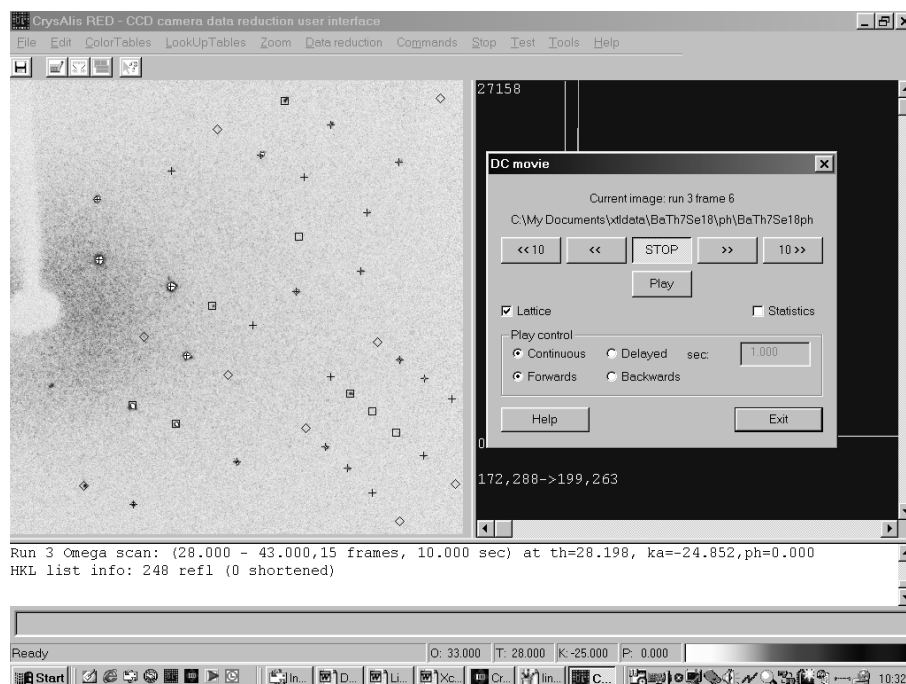

Figure 6.5.51 Screenshot of Data Collection Movie with Unit Cell Predictions Overlaid
3. If the unit-cell has previously been determined, indexed *etc* then predictions of reflection positions can be overlaid on the movie images. To do this, simply click on the box marked '**Lattice**' until a tick appears and then **Play**. The images should then look like the one shown in figure 6.5.51.